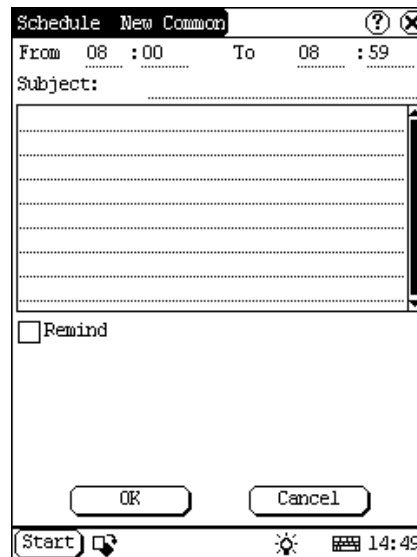

Figure 4-31
- 3) If the selected cycle is 'Daily', 'Weekly', 'Monthly' or 'Annual', you can input the repeat time in the textbox on the bottom of the interface. See Figure 4-31.